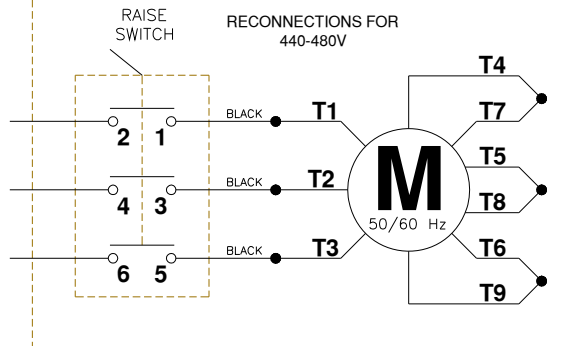

Fig 12 – Electrical Wiring Diagram
- 34) Connect the Overhead Limit Switch Cord to Power Unit as shown in **Fig 12**.
- 35) Connect Power Unit to suitable electrical source as shown in **Fig 12**.